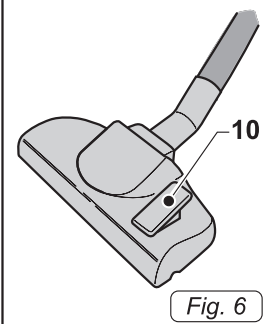

Fig. 6
- To clean hard floors, parquet etc. press the lever back (10 Fig.6) to remove the bristles from the brush.
- To vacuum on carpets, rugs etc. press the lever forward (10 Fig.6) to retract the brush bristles.